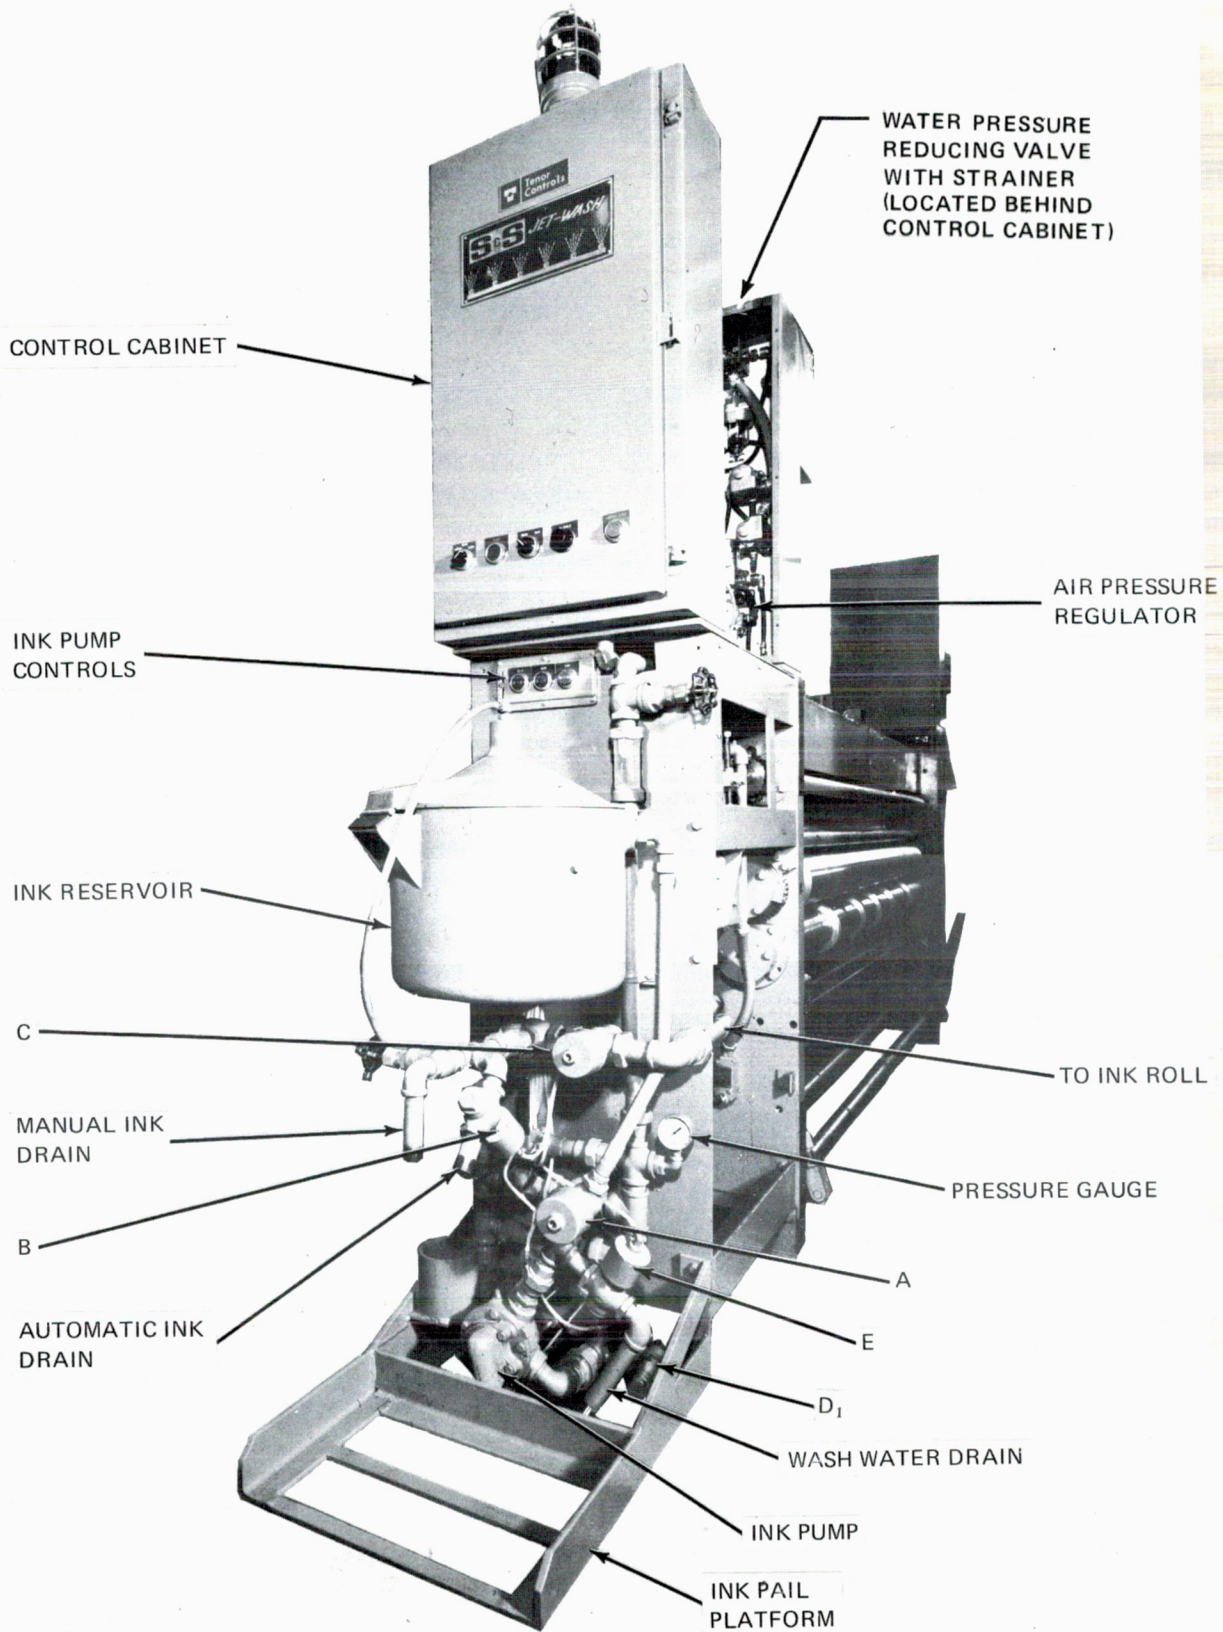
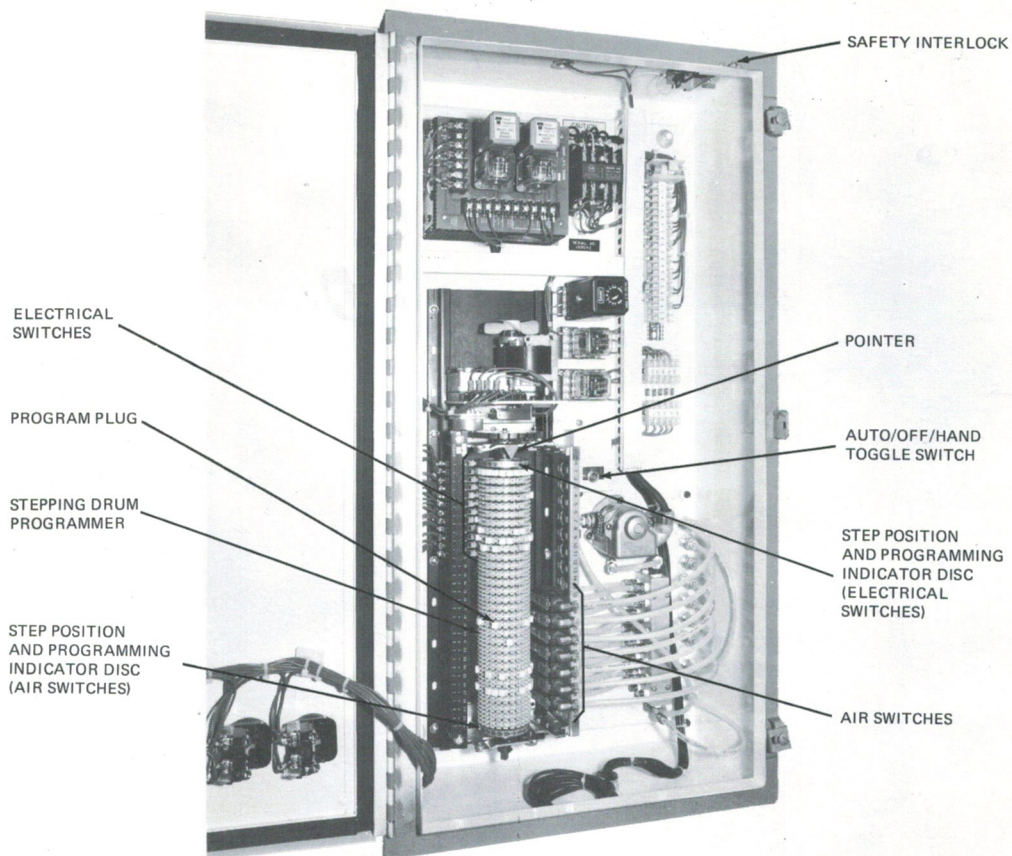
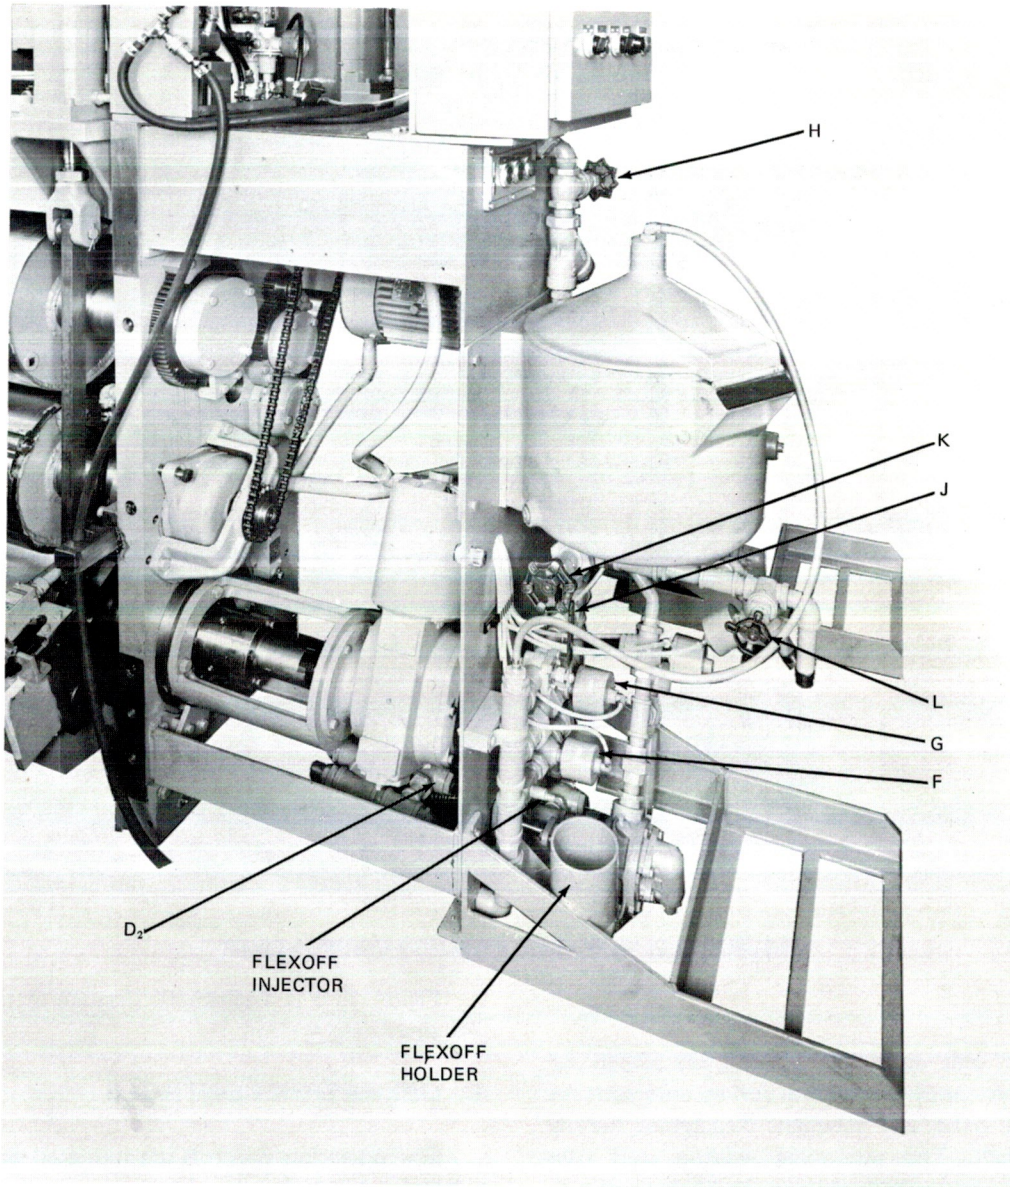

FIGURE 10-1. WASHUP UNIT COMPONENTS
FIGURE 10-2. CONTROL CABINET COMPONENTS
FIGURE 10-3. GATE VALVES
The control cabinet (Figure 10-1) houses the control switches and stepping drum programmer. The stepping drum programmer (Figure 10-2) is the heart of the automatic system. Plugs (Figure 10-2) fixed on the drum in a predetermined pattern activate air and electrical switches (Figure 10-2) in the correct sequence for the washup to occur.
Eight hydro-pneumatic valves (A, B, C, D₁, E, Figure 10-1; D₂, G, F, Figure 10-3) are located in the ink and water lines. These are automatic valves. They operate automatically on signals coming from the air switches activated by the stepping drum programmer. Each valve is normally either open or closed. When activated, the valve assumes the opposite state.
An air pressure regulator (Figure 10-1) maintains the air pressure to operate the valves at 50 to 60 psi (3.5 to 4.2 kgscm).
Four manually operated gate valves (H,J,K,L, Figure 10-3) allow manual washup and normal ink circulation in the event of automatic system malfunction or failure.
The water pressure reducing valve (Figure 10-1) maintains the required 40 psi (2.8 kgscm) for effective washups. A water strainer (Figure 10-1) fits into the main water line to filter out foreign material that might restrict water flow.
One pump (Figure 10-1) circulates the water for washup and the ink for printing. Ink flow to the roll is by gravity feed. Return ink is also gravity fed to the pump. The pump is placed at the lowest point in the system for adequate drainage and circulation.
Step 3) Place ink pail under drain spout (Figure 10-1).